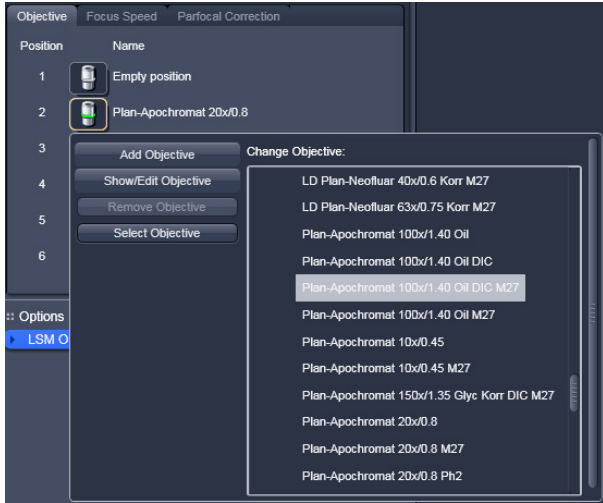

Fig. 163 Add Objective window – Potential Objectives
- Click on the **Add Objective** button on the **Change Objective** window (Fig. 163).